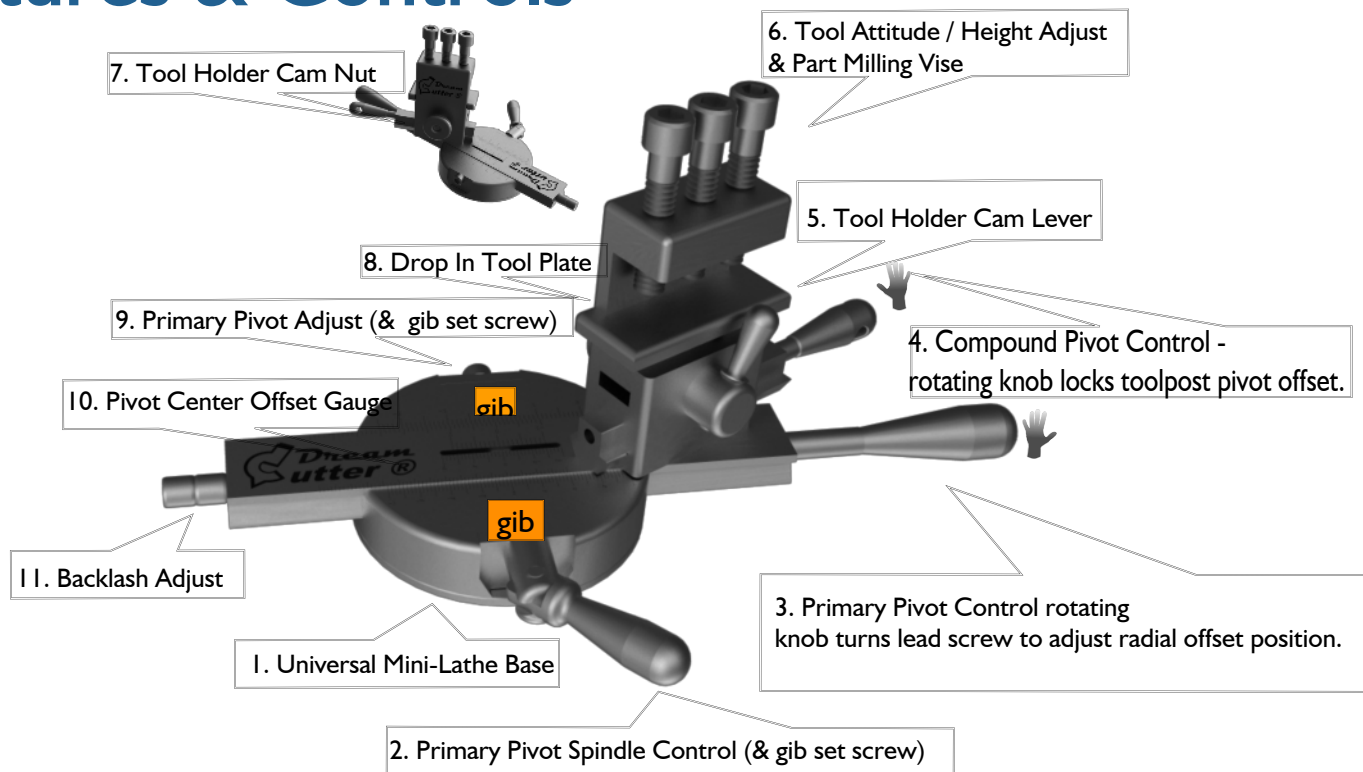

figure 4.
Reference the *Features* section of this guide and *Figures 4 & 5* to understand the purpose of the various adjustment knobs and control levers.
- 2.2 Use Primary Pivot Spindle Control (Fig. 4, #2) to adjust *spindle friction* or fully tighten to lock compound to a particular angle. The clamping of the pivot hub increases rigidity body to the base.
- 5.1 Cam (Fig. 4 #5) raises/lowers drop in tool plate +/- .25” Tighten Cam Nut (Fig.4 #7) to increase cam friction, loosen to release.